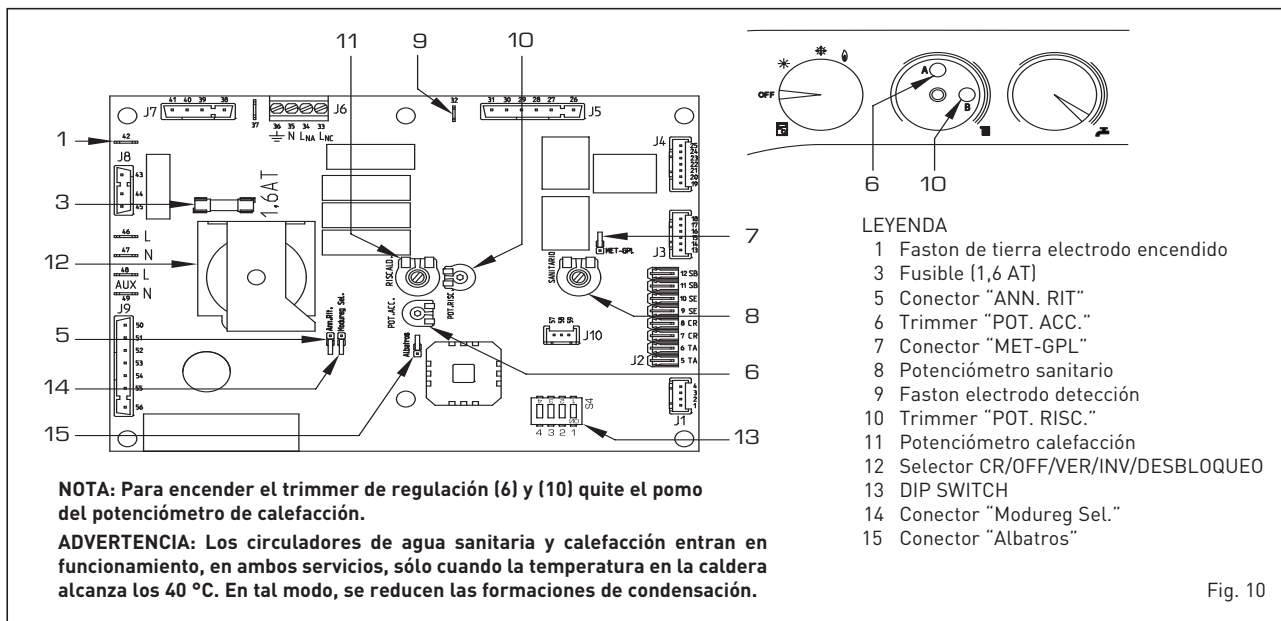

Fig. 10
- **Trimmer "POT. RISC."** (10 fig. 10)
- **Trimmer "POT. ACC."** (6 fig. 10)
- **Conector "MET-GPL"** (7 fig. 10)
- **Conector "ANN. RIT."** (5 fig. 10)
- **DIP SWITCH** (13 fig. 10)
- Conector "Modureg Sel." (14 fig. 10)
- Conector "Albatros" (15 fig. 10)